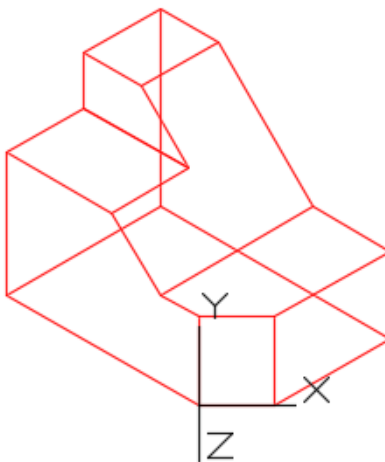

Figure Step 11
Step 11 Using what you learned in Steps 8 to 10, locate the UCS as shown in the figure. Ensure that the UCS plane lies on the inclined plane. (Figure Step 11)